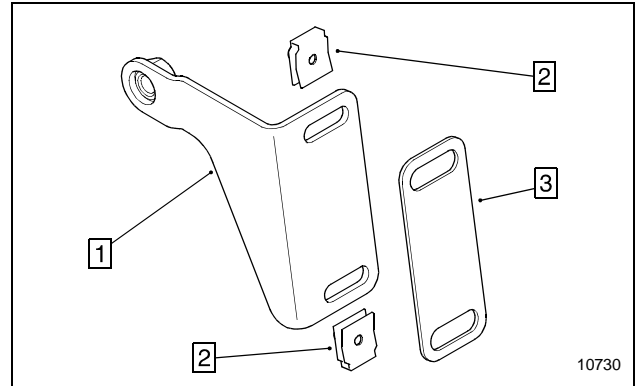

Figure 4
10. Install the U-nuts and the bracket pads to the right and left side oil cooler brackets as shown (see Figure 4). Make sure the U-nuts lay underneath the pad.